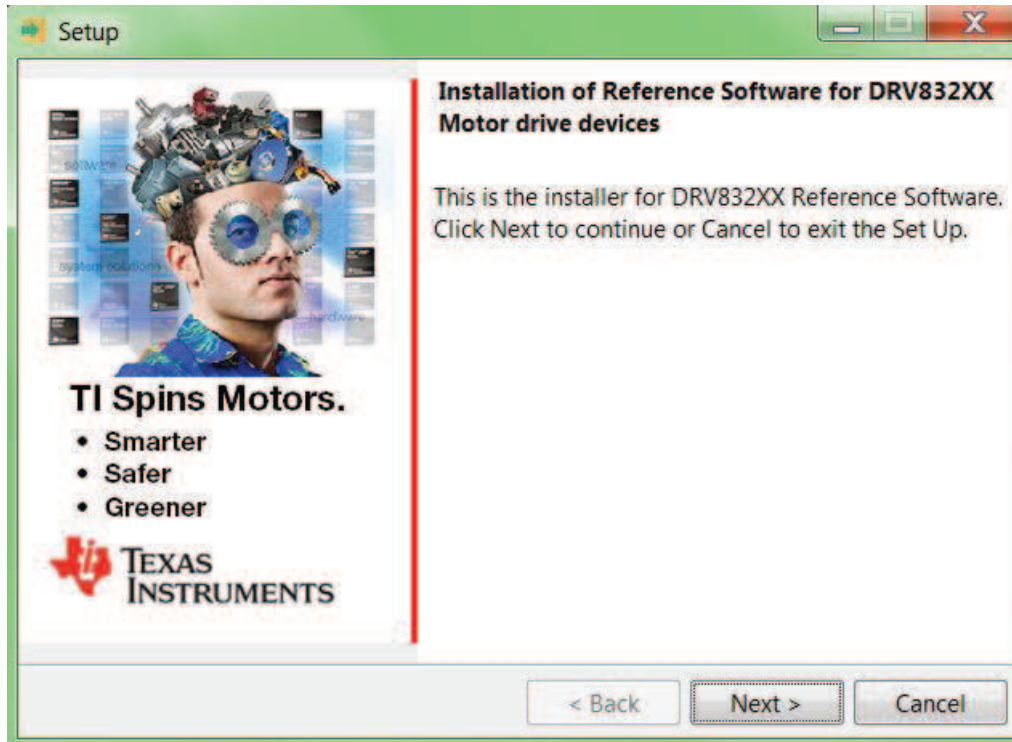

Figure 15. Setup Home Screen
- Step 3. Click the *Next* button on the DRV835XX Installer welcome screen (see Figure 15).